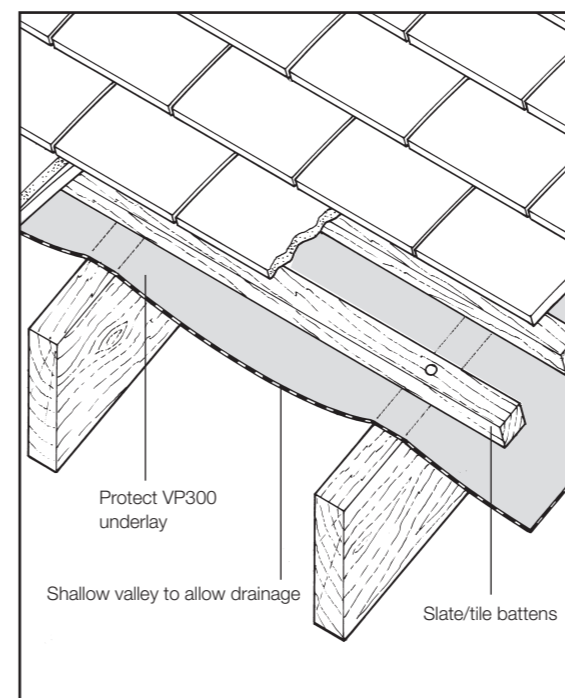
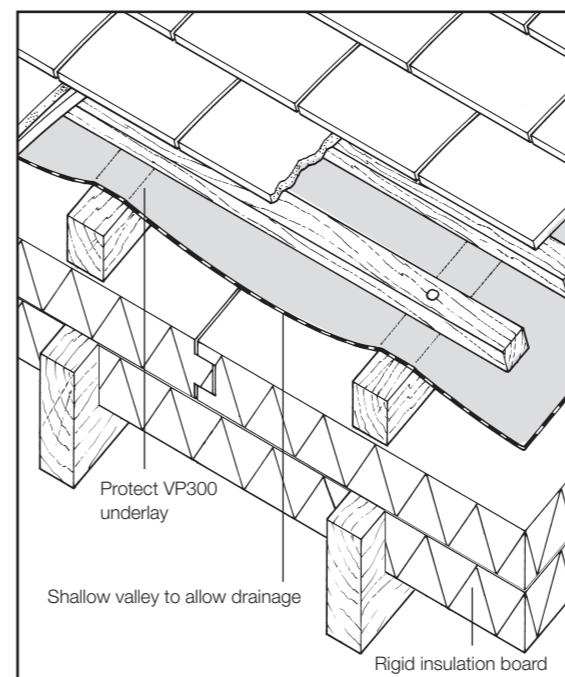
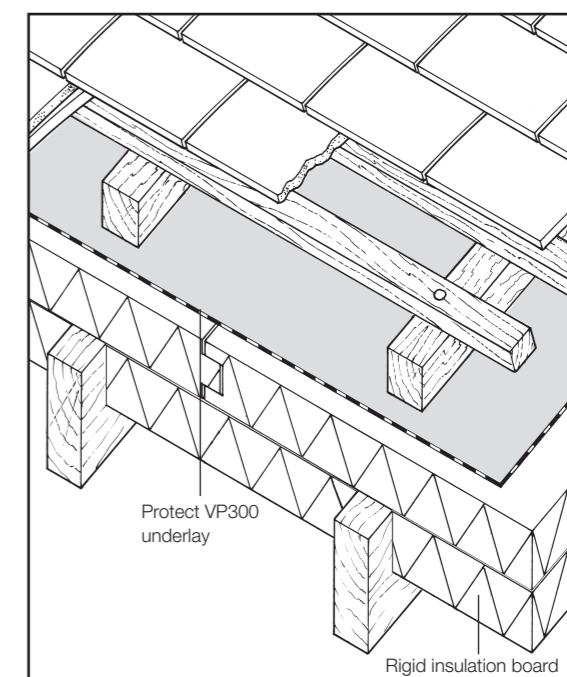

Fig 1
Fig 3
Fig 4
- Protect VP300, a vapour permeable underlay, may be used for cold roofs with ventilated or unventilated loft spaces (see Figs 1 and 2) or warm roofs with insulation between and or above rafters (see Figs 3 and 4).
If the ceiling is well sealed, as defined in BS 5250, condensation can be controlled by the use of Protect VP300 with no additional ventilation. Protect VP300 can be laid draped unsupported (see Fig 3) or fully supported on insulation (see Fig 4). To ensure the integrity of a well sealed ceiling, a separate vapour control layer such as Protect VC Foil Ultra must also be used on the warm side of the insulation.